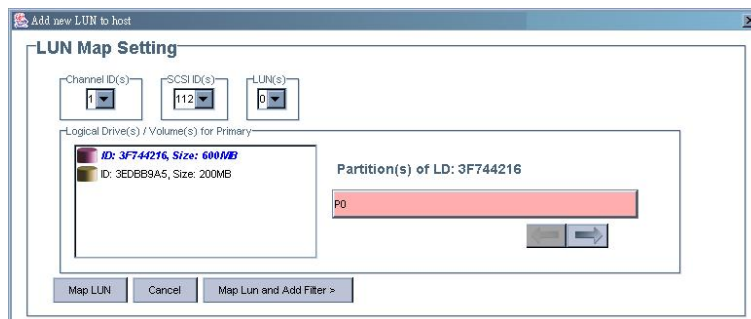

Figure 10-4: LUN Map Setting Window: Single Partition
-  **Step 5.** Click on the **Map LUN** button to complete the process. (See *Figure 10-4*)